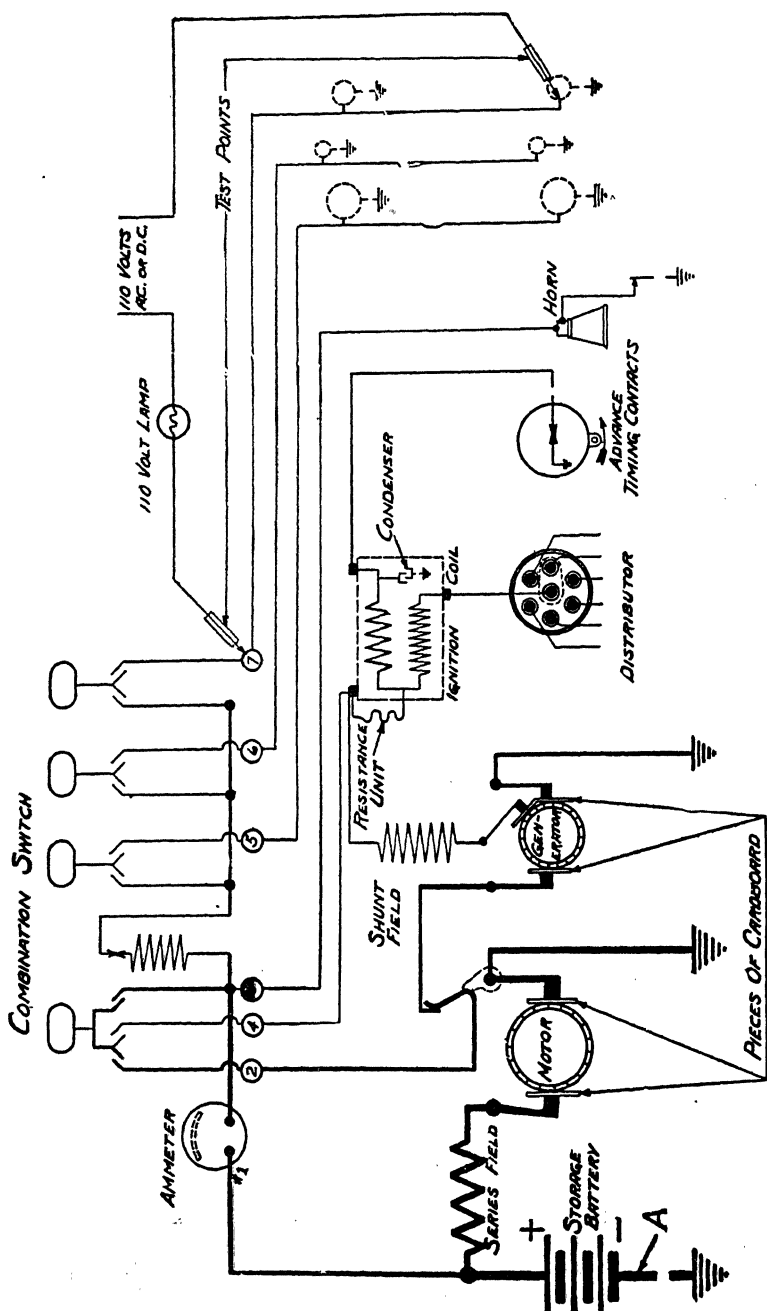

Fig. 23. Wiring Diagram Showing Method of Using Lamp-Testing Set for Discovering Breaks in Wires
**Locating Breaks in Wires.** Where the failure of the apparatus in a particular circuit makes it apparent that a wire, or lead, may be broken, it may be tested by placing one of the points on each end of the wire in question. The lighting of the lamp will indicate that there is a complete circuit through the wire, while its failure to light is evidence of a break in the wire. If at all difficult to locate the break, the easiest method of repairing is it to replace the wire with a new lead of the same size and type of insulation. The method of carrying out this last test is illustrated in Fig. 23 and it is naturally applicable to any of the wires, not only of this type of installation but of any other lighting and starting system. In making this test, care must be taken not to apply the points at places on the terminals where a ground connection will result, as this will complete the circuit through the lamp without the current passing through the wire supposedly under test. This method of locating grounds, short-circuits, or open circuits will be found much better than the use of a buzzer, bell, or magneto, and it is recommended wherever a 110-volt current is available. However, where it is not available, a lamp, bell, buzzer, or the portable voltmeter may be used in connection with the storage battery on the car, after detaching its usual connections to the system.